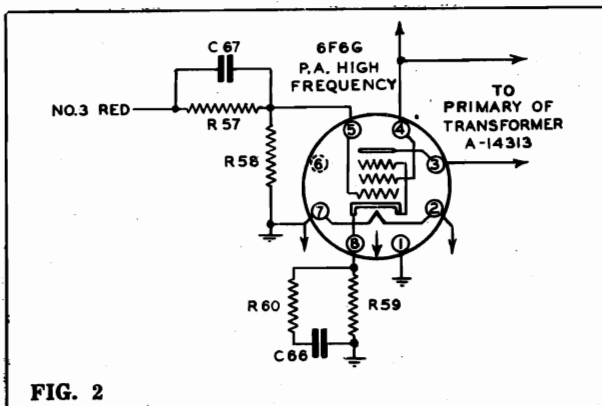

FIG. 2
(2) Change in Cathode Resistor Network of Type 6F6G High Frequency Power Amplifier as in Fig. 2.
(3) Change in Bias Resistor of Type 6K7G 1st. I-F Amplifier.